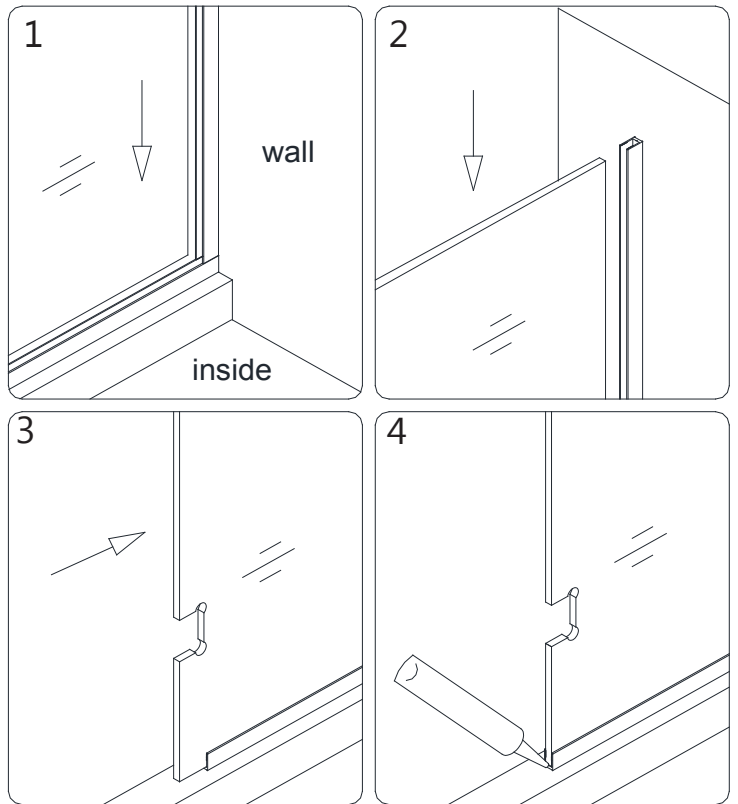

Fig 18
15. Install the **Hinge Panel glass (#32)** into the **U-channel 2 (#29) (bottom profile)** and the **U-channel 1 (#09) (wall profile)**. Apply a dab of silicone to the exposed end of the bottom u-channel. (**Fig 18 and 19**)